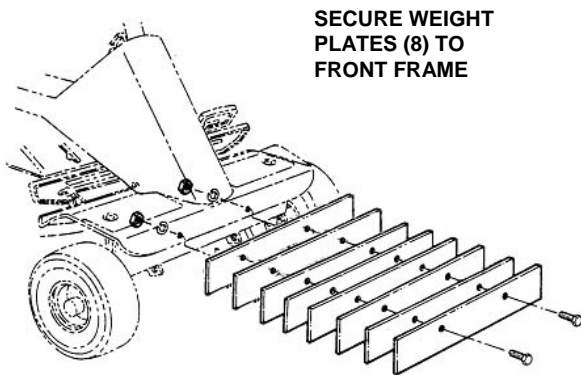

FIGURE 1.12
- A. Attach (8) weight plates to the front frame of Rider using (2) 3/8-16 x 3” hex head bolts and (4) heavy 3/8” flat washers. Place one washer on each bolt.
- B. Align holes in weight plates with holes in frame. Insert bolts through weight plates and frame. See Figure 1.12.